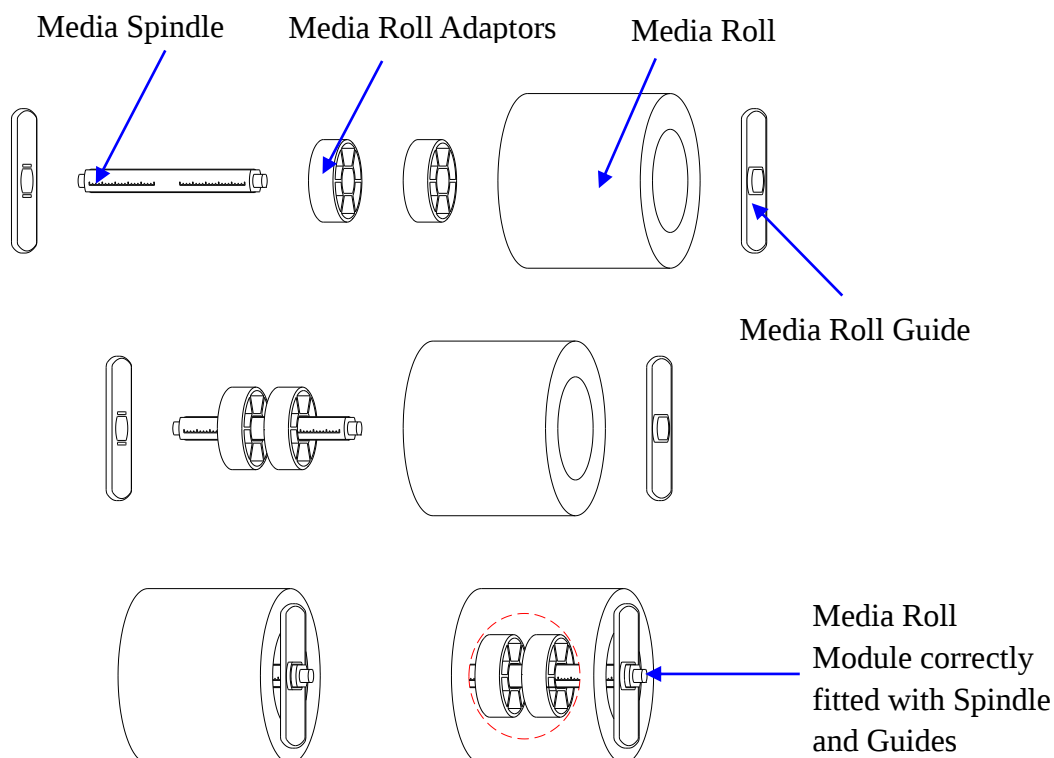

Figure 2-5 Place Media Roll on Media Spindle
2. Load a roll of media (labels facing up) on the Media Spindle, then slide the two Media Roll Guides, with smooth sides facing toward the media, onto the Media Spindle from each end until both Media Roll Guides touch the media. When placing a roll of media with a 3" ID core, please slide the two Core Adapters onto the Media Spindle first, as shown in Figure 2-5.